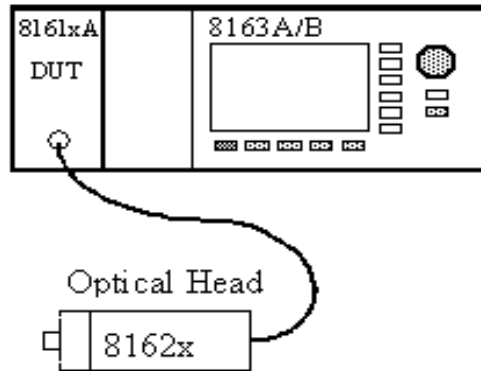

Figure 7 Functional Test Setup
- 1 Set up the equipment as shown in Figure 7 on page -47